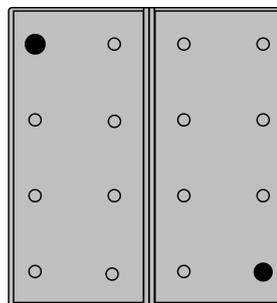

Figure 4: Activating programming mode for channel buttons
- Press the top left and bottom right buttons simultaneously for longer than 4 seconds (Figure 4). Red LED flashes slowly. The radio sensor is in programming mode for approx. 1 minute.
- Press the top left and bottom right buttons simultaneously for longer than 20 seconds (Figure 4).